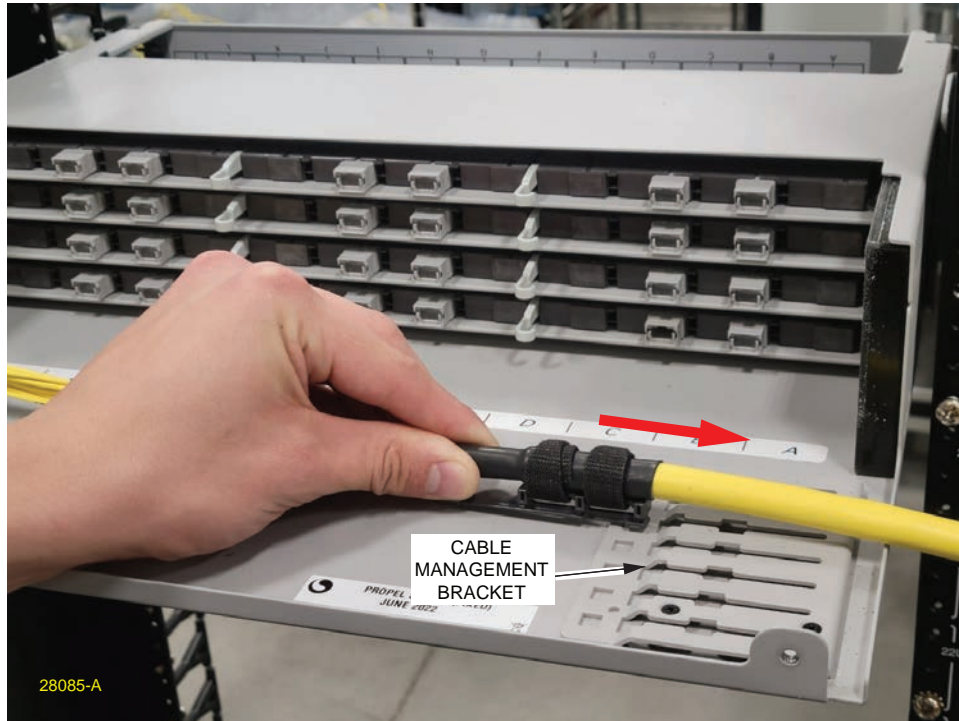

Figure 33. Inserting and Sliding in a Cable and Clip Assembly
5. Insert the lead bottom feature of the clip into the selected slot, and slide it in to the final position, as shown in Figure 33 and Figure 34. Start at forward most position and install additional cables working toward back of panel. Figure 35 shows a fully-installed cable assembly routed in a slack loop on the cable management platform, with connections made to the rear module ports.